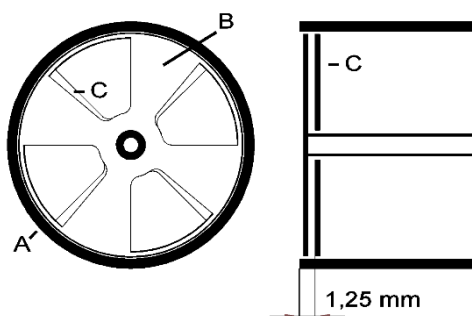

Fig. 1: Field detection vanes
plates of the electrode and stator (C) (cf. Fig. 1). This means that an extra 1.25 mm needs to be added to the configured plate separation (distance between (13) and (15), the capacitor's measurement plate).